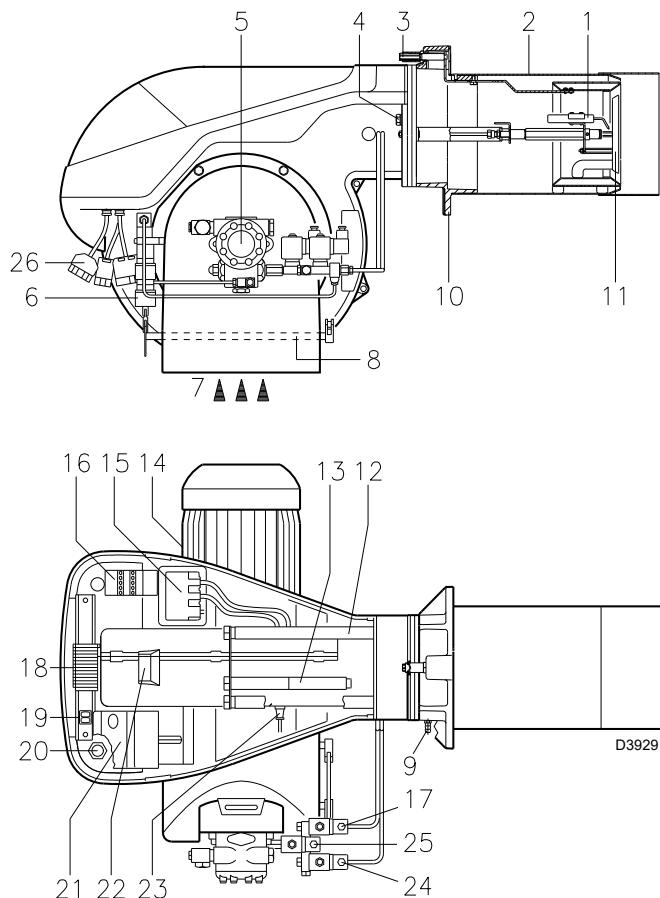

Fig. 1
Control box lock-out: if the control box 22)(Fig. 1) pushbutton (red led) lights up, it indicates that the burner is in lock-out. To reset, hold the pushbutton down for between 1 and 3 seconds.
Motor trip: release by pressing the pushbutton on thermal cut-out 17)(Fig. 1).
- 4 - Extensions 13)(Fig. 1) for slide bars 12)(Fig. 1)